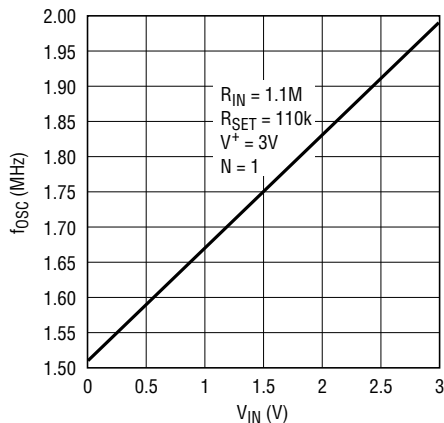

Figure 10. Output Frequency vs Input Voltage
Let  $V^+ = 3\text{V}$ ,  $f_{OSC(MAX)} = 2\text{MHz}$  for  $V_{IN(MAX)} = 3\text{V}$  and  $f_{OSC(MIN)} = 1.5\text{MHz}$  for  $V_{IN} = 0\text{V}$ . Solve for  $R_{IN}/R_{SET}$  by Equation (2), yielding  $R_{IN}/R_{SET} = 9.9/1$ .  $R_{SET} = 110.1\text{k}$  by Equation (4).  $R_{IN} = 9.9R_{SET} = 1.089\text{M}$ . For standard resistor values, use  $R_{SET} = 110\text{k}$  (1%) and  $R_{IN} = 1.1\text{M}$  (1%). Figure 10 shows the measured  $f_{OSC}$  vs  $V_{IN}$ . The 1.5MHz to 2MHz frequency excursion is quite limited, so the curve of  $f_{OSC}$  vs  $V_{IN}$  is linear.